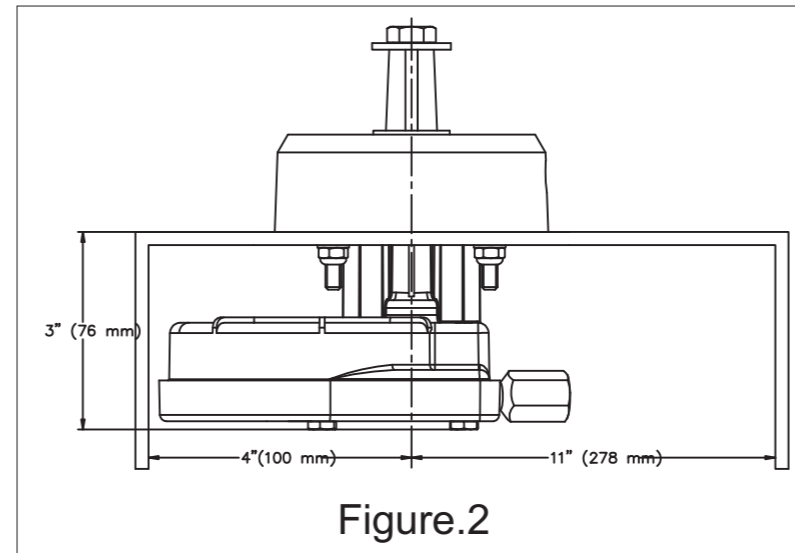

Figure.2
- While selecting the location ensure adequate availability of space for wheel movement above the dashboard. Also ensure adequate space for Helm and Cables mounting below the dashboard.(Refer Fig.2 for space requirements)